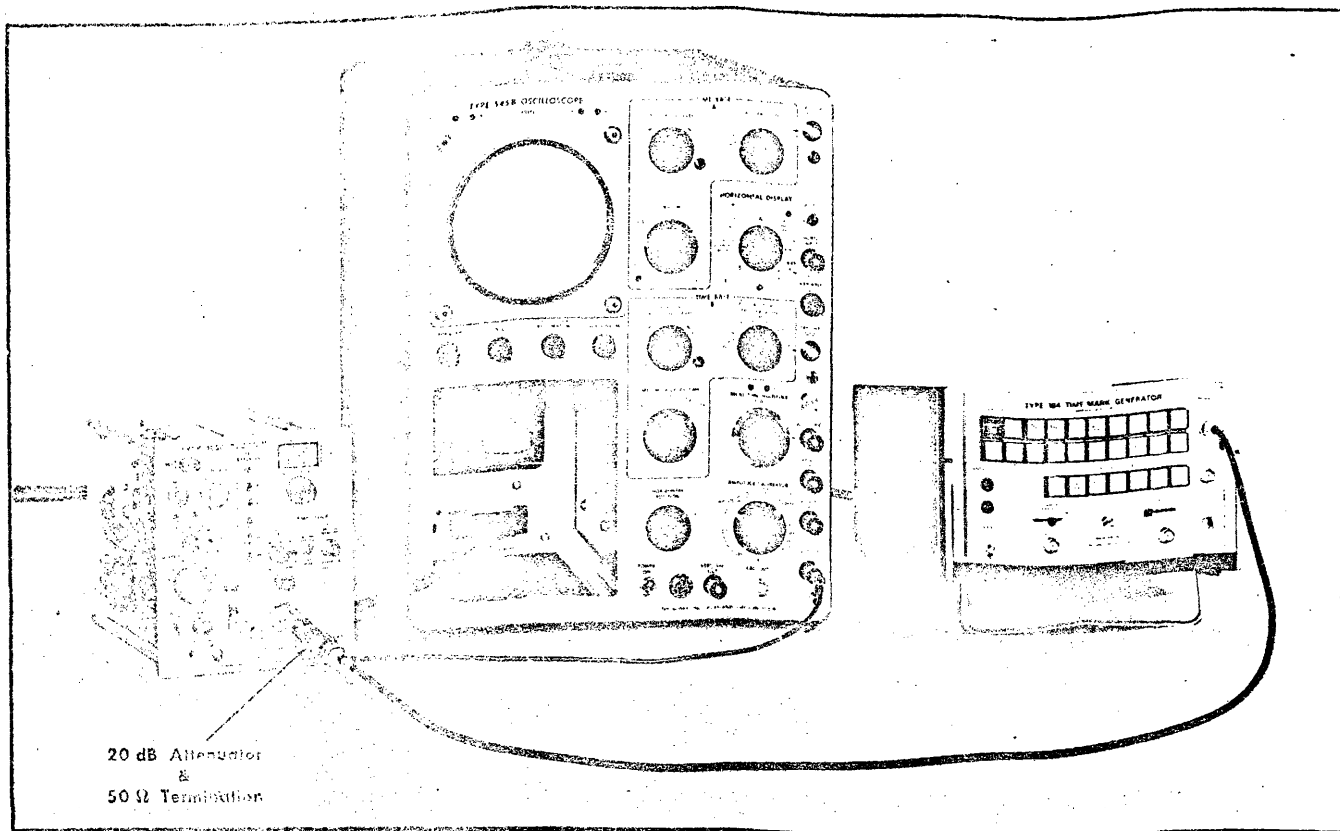

Fig. 6-23. Equipment setup for checking incidental FM (step 15).
- Equipment setup is shown in Fig. 6-23.